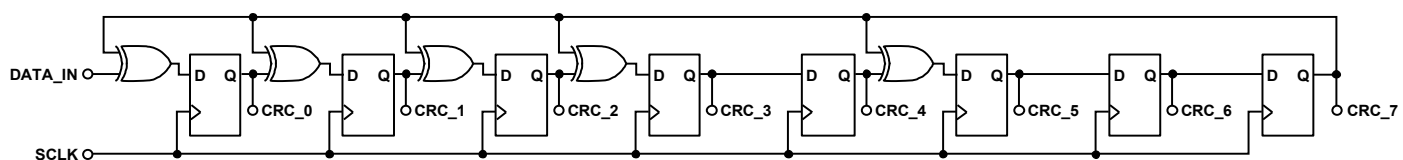

Figure 40. CRC Implementation
The polynomial used by the AD7280A to calculate the CRC bits is  $x^8 + x^5 + x^3 + x^2 + x + 1$ . This CRC polynomial has a Hamming distance of 4 for calculations up to 22 bits of data. The division is implemented using the digital circuit shown in Figure 40.
- xor\_1, xor\_2, xor\_3, xor\_4, and xor\_5 are integer variables. These outputs of the XOR gates start with the leftmost XOR gate in the circuit implementation (see Figure 40).
- CRC\_0, CRC\_1, CRC\_2, CRC\_3, CRC\_4, CRC\_5, CRC\_6, and CRC\_7 are integer variables. The outputs of the shift registers start at the leftmost shift register in the circuit implementation (see Figure 40).
With the exception of data\_in, all variables should be initialized to 0. The following code implements the CRC calculation as shown in Figure 40.